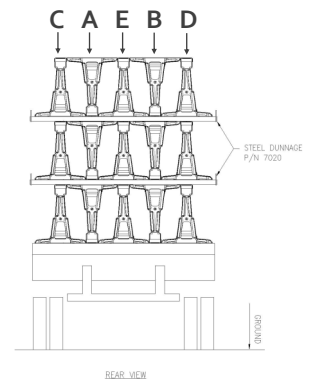

Figure 2
- Unloading Sequence—The truck will be loaded as shown in Figure 2. Each layer will be separated by two pieces of steel dunnage. The sequence of unloading, per layer, should be as follows (refer to E-1009).